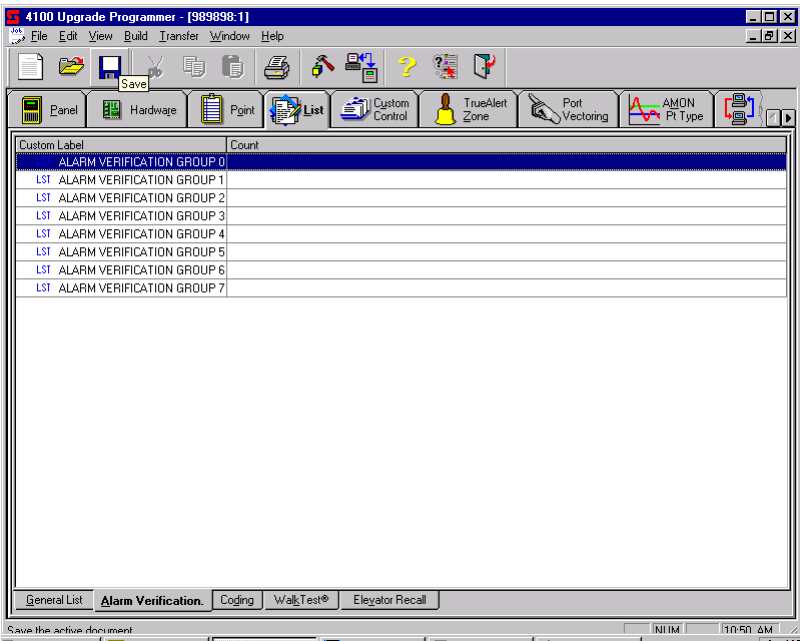

Figure 9-9. Alarm Verification Tab
2. Click on the Alarm Verification tab at the bottom of the List Window. A screen similar to the one shown in Figure 9-9 appears.